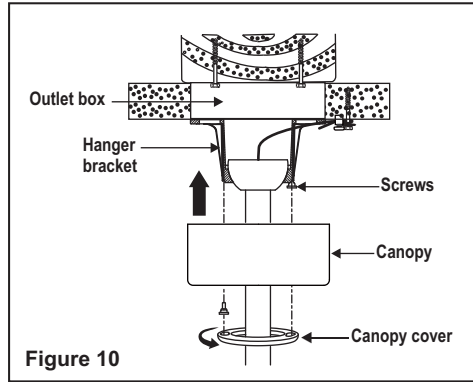

Figure 10
Step 2. Slide the canopy up to mounting bracket and place the key hole on the canopy over the screw on the mounting bracket, turn canopy until it locks in place at the narrow section of the key holes. (Fig. 10)